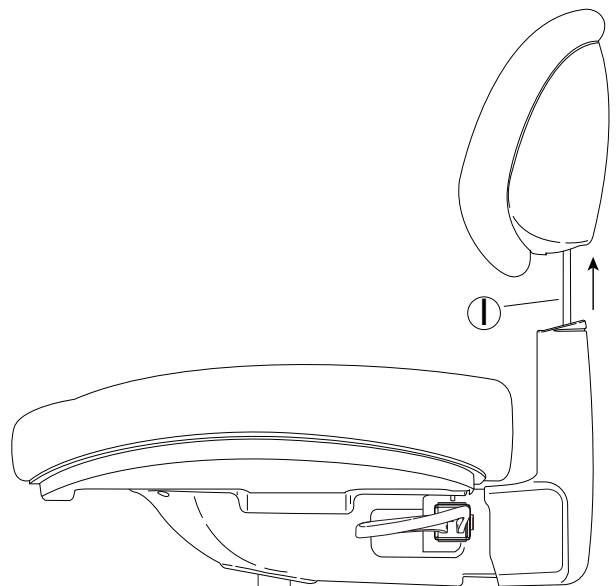

Figure 6: Adjusting Backrest Height - Clinician's Stool
1. Lift the backrest (Figure 6, item 1) to the desired height at one of nine possible positions.